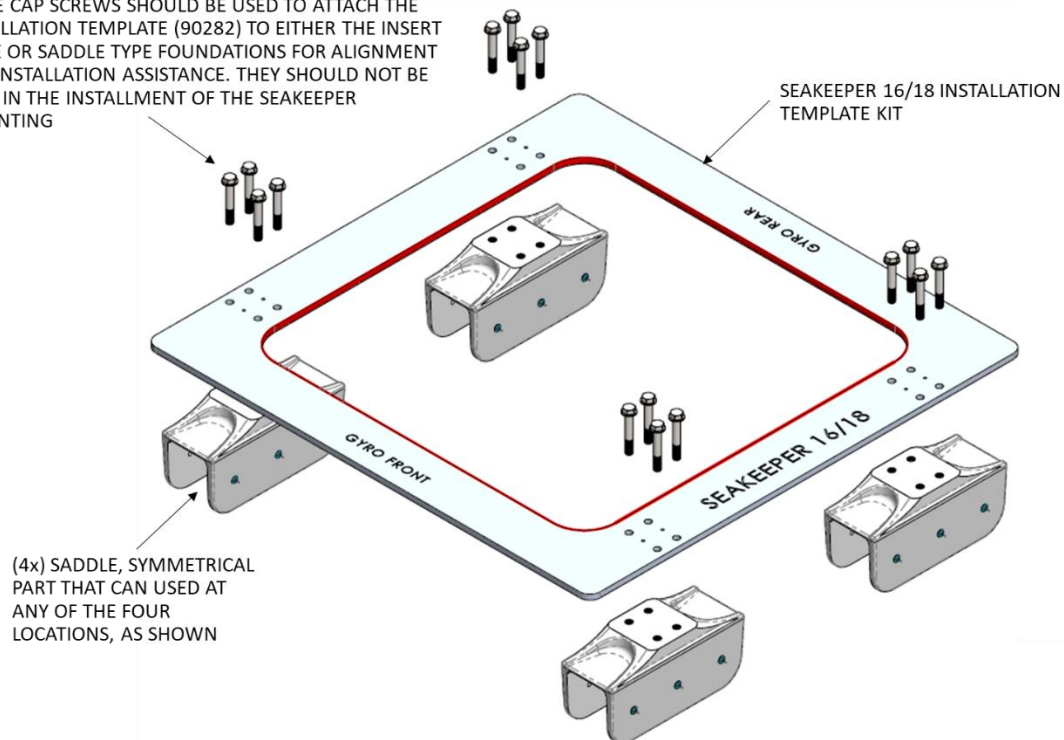
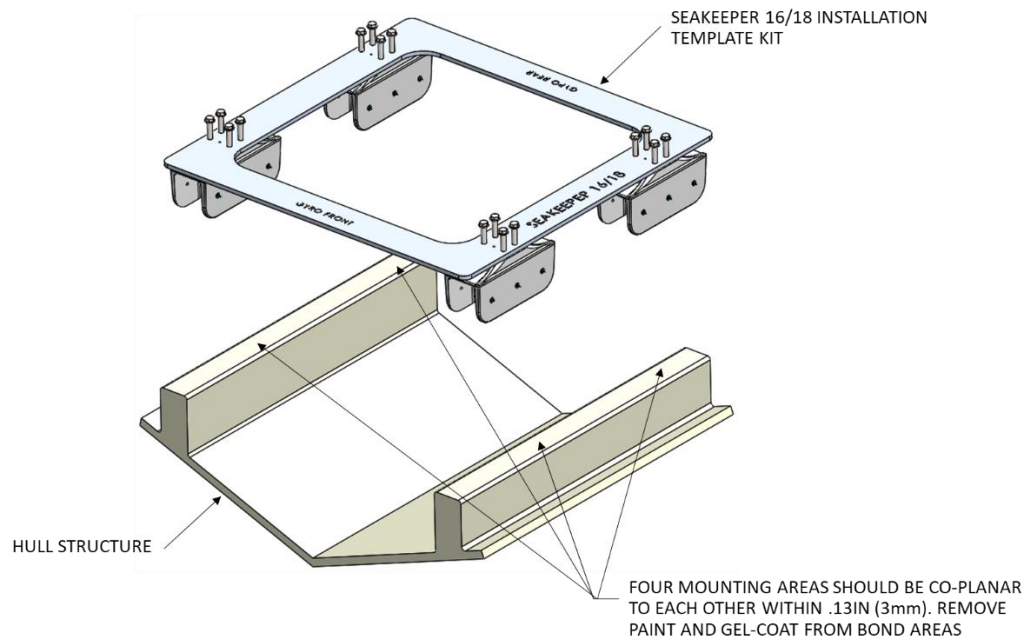
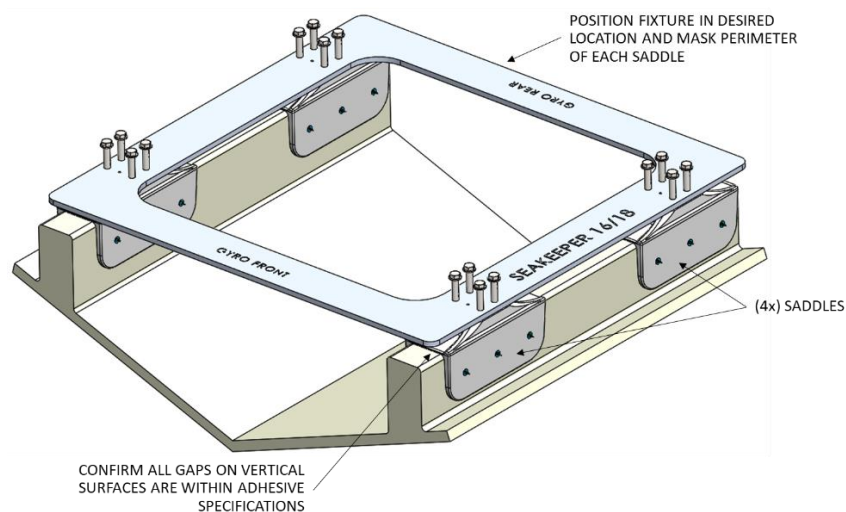

FIGURE 6 – EXPLODED VIEW OF SADDLE INSTALLATION FIXTURE
FIGURE 8 - INSTALLING FIXTURE ON HULL
FIGURE 9 - MASKING PERIMETER OF SADDLES
Seakeeper provides an installation fixture template, P/N 90282 that locates the saddles at the proper spacing both in the fore-aft direction and the port-starboard direction. See Figures 6, 7 & 8 below. Once assembled with the provided saddle fittings, the fixture can be used to check clearances and alignment of the hull structure. The fixture will allow the builder / installer to lay-up and adjust the foundation dimensions to create a low-clearance fit between the Seakeeper foundation saddles and the hull structure. Shear strength of the adhesive will be maximized if the cured thickness between the vessel structure and Seakeeper saddles is at the thinner end of the adhesive manufacturer’s recommended range. Therefore, the fixture should be used to confirm
- 1) Position installation fixture (Fig 8) on hull girders noting recommended clearances for maintenance from Figure 2. Check that the screws fastening the saddles to the installation fixture are tight (Fig 6).
- 2) Mask hull area (Fig 9) around foundation saddles for easy clean-up and to create outline of surface area to receive adhesive as (Fig 8). Ensure that the bond gap is within Seakeeper's recommended thickness, or 3mm if using Plexus MA590.
- 3) Raise fixture clear of foundation. Check all four mounting areas are co-planar to within .13" (3 mm) to each other, as well as parallel to the water line plane, as shown in Fig 8.
- 4) Remove any paint or gelcoat from bond surfaces so that adhesive will bond directly to laminate fibers and resin as shown in Figure 8.
- 1) Ensure that screws fastening saddles to the installation fixture are tight (Fig 6).